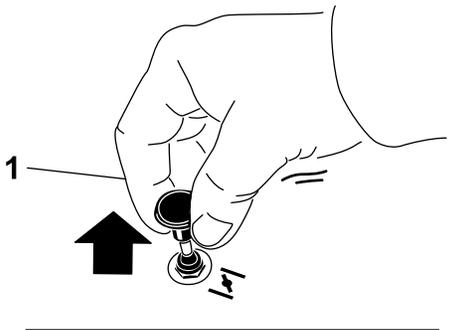

Figure 16
1. Pull up the choke knob to engage the choke before using the key switch (Figure 16).
2. Push down the choke knob to disengage the choke after the engine has started (Figure 16).